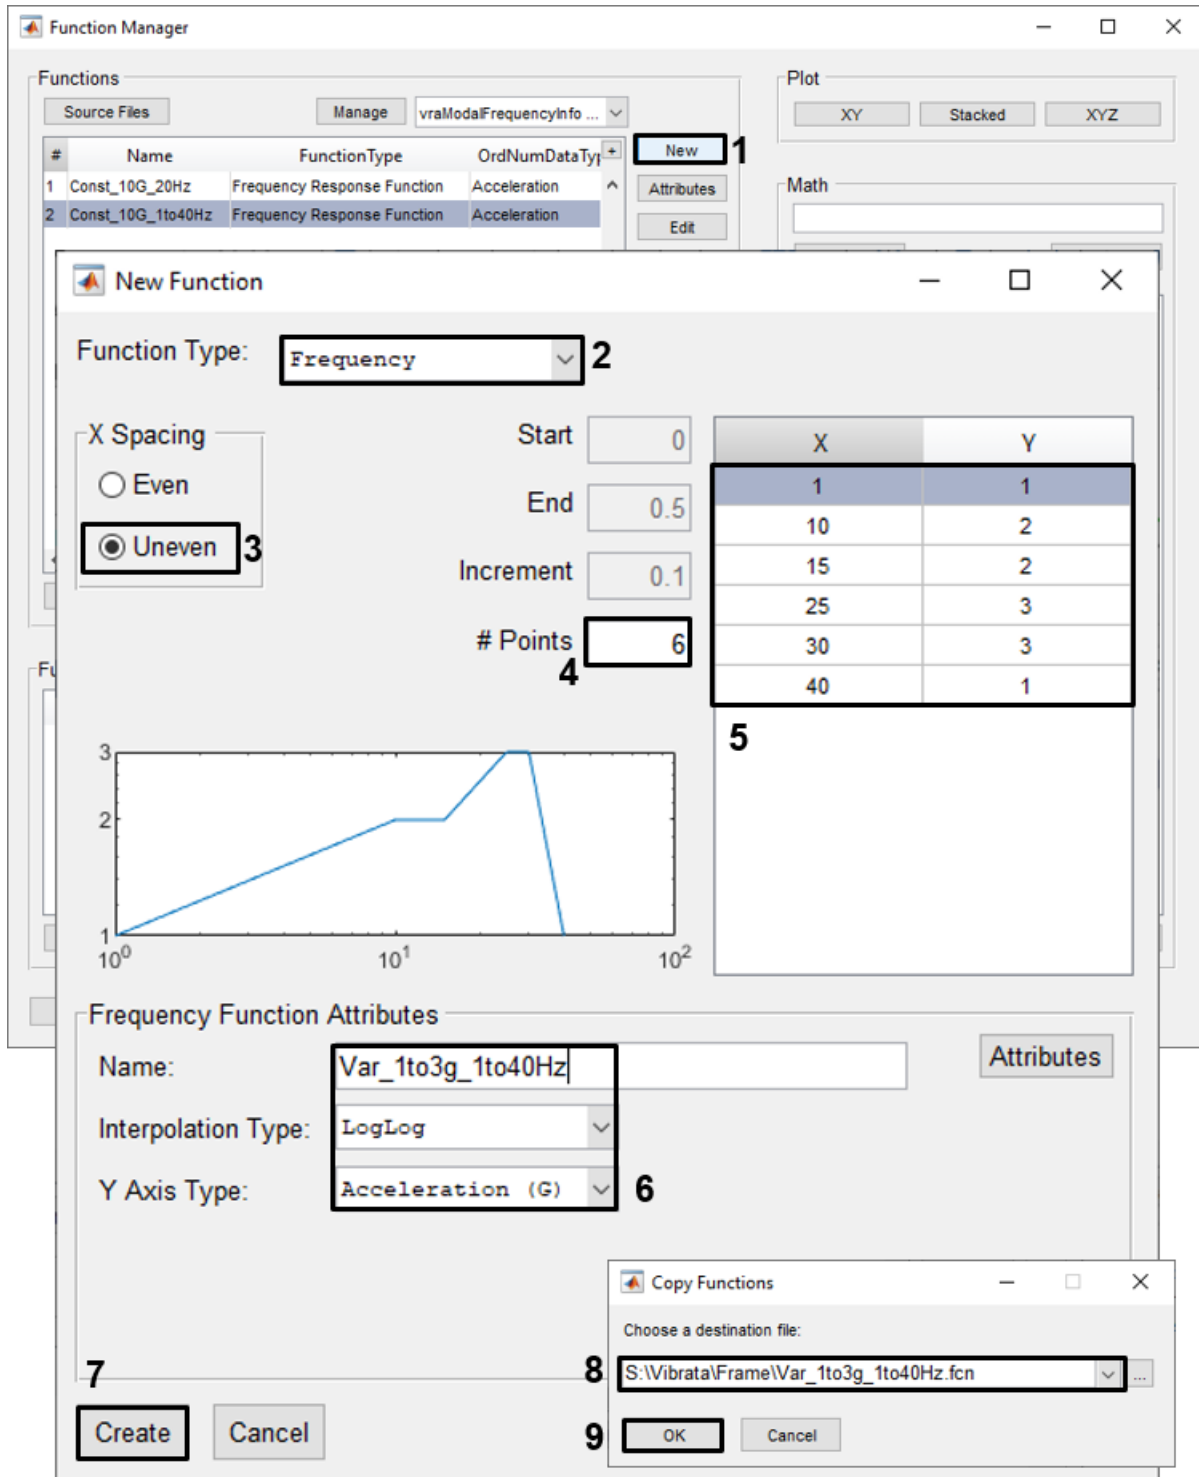

Figure 4-29. Make the function uneven and give it non-constant amplitude.
- d. With the Function Manager still open, create a new acceleration function that is not constant. Use the values shown in Figure 4-29. Be sure to name it as shown and set its interpolation method to *LogLog*. We will use this function in the second part of this example.